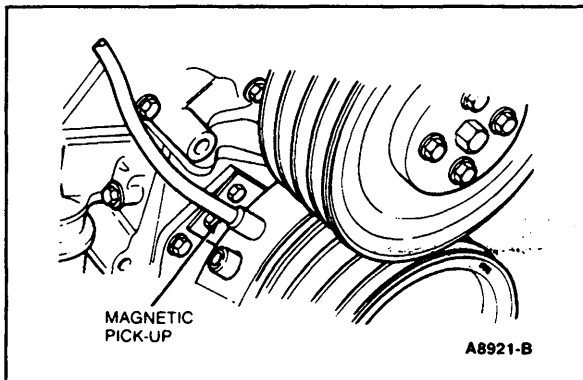

Figure 14 Magnetic Pickup — Dynamic Timing
2. Stop engine and install Dynamic Timing Meter, Rotunda 078-00200 or equivalent, by placing magnetic pickup in timing pointer probe hole (Fig. 14). Insert pickup until it almost touches vibration damper.